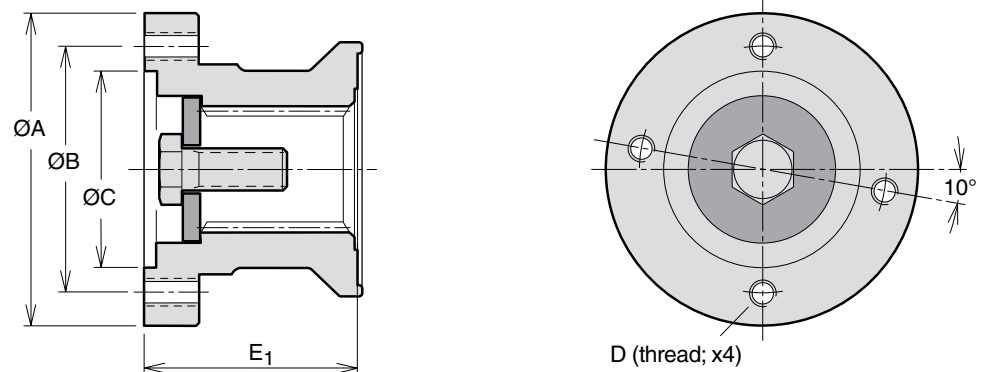

Fig. 3. SAE 88 (378 0644)
Designation	SAE88 (fig. 3)
2. Series F1 (right illustration, fig. 3)
- Install hose kit 378 1085 between the lowest drain port on one of the pumps (see fig. 3) and the BPV-F1-25 and -81 bypass valves.